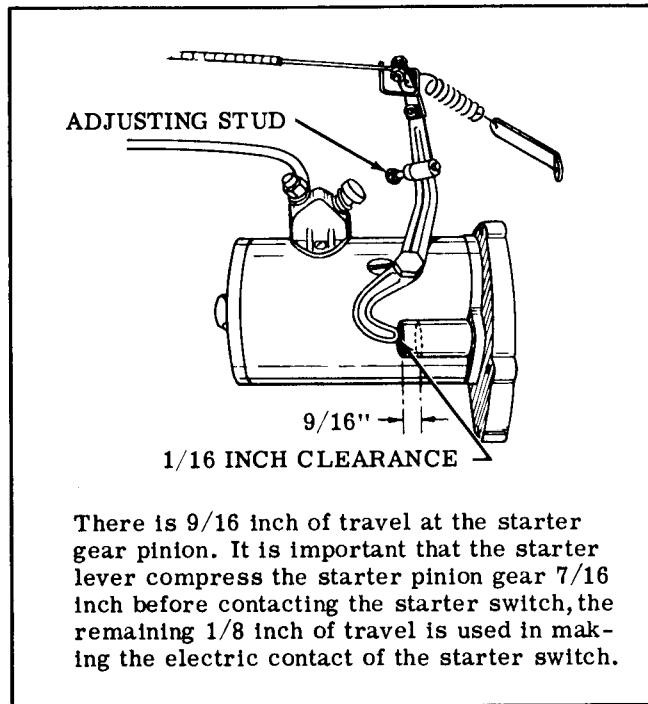

Figure 12-1. Starter Lever Adjustment
- e. Rig control and starter adjusting stud to obtain the travel and clearance specified in figure 12-1.